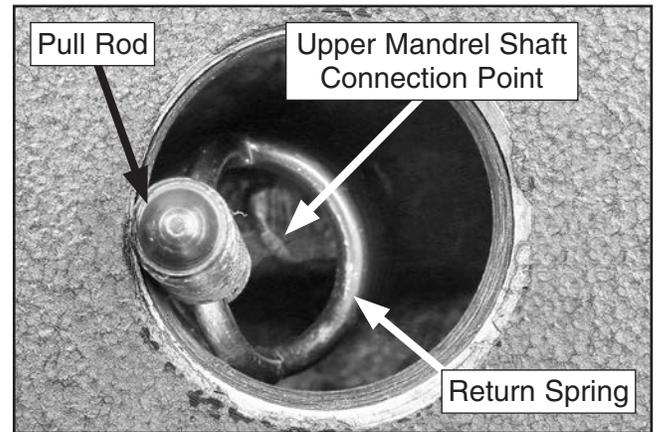

Figure 46. Return spring with pull rod installed on upper mandrel shaft (located in headstock).
- Insert one end of spring into hole in pull rod, then attach other end to connection point on upper mandrel shaft, inside headstock (see **Figure 46**). Use flashlight if necessary.